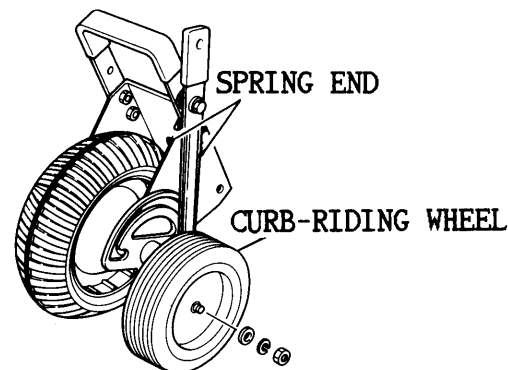

FIG. 5
5. Make sure shorter end of stopper spring is attached on front fender and the other end on stopper stay as shown in Fig.5.
6. Install curb-riding wheel on shaft holding the shaft and tire at the most front for easier installation (convexed side should face front wheel side). Then, place washer, spring washer and nut on the shaft and tighten the nut securely. (Fig.5)